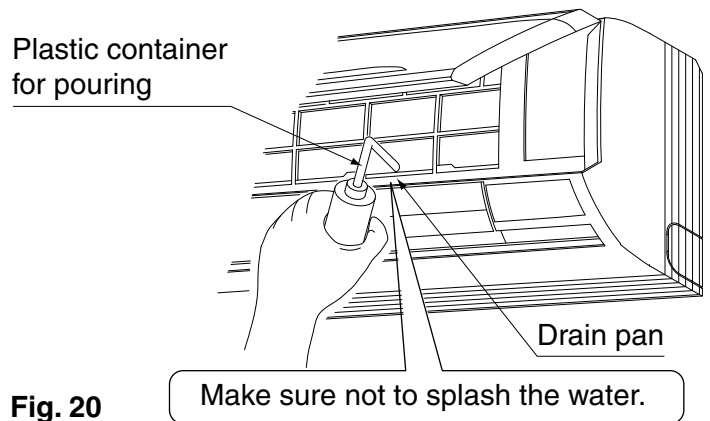

Fig. 20
(2) Make sure the drain works properly.
- After drain piping work is complete, perform a drain check by opening the front panel, **removing the air filter**, pouring water into the drain pan, and making sure water flows smoothly out of the drain hose. **(Refer to Fig. 20)**